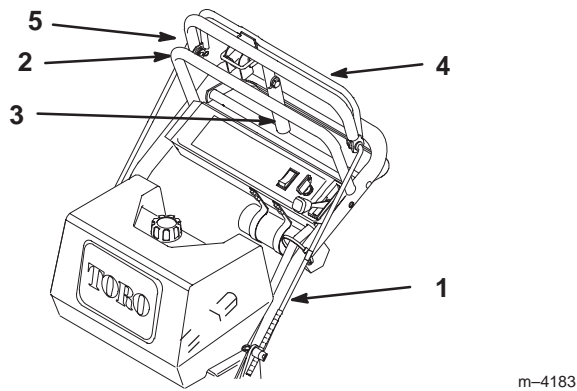

Figure 12
3. Check the gap between upper control bar and fixed bar with wheel drive fully engaged. Gap should be approximately 1 to 1-1/4 in. (25–32 mm) (Fig. 12).